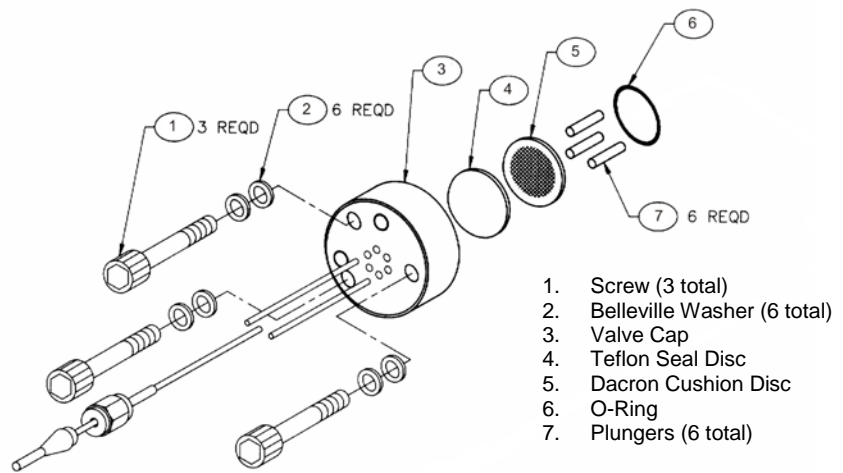
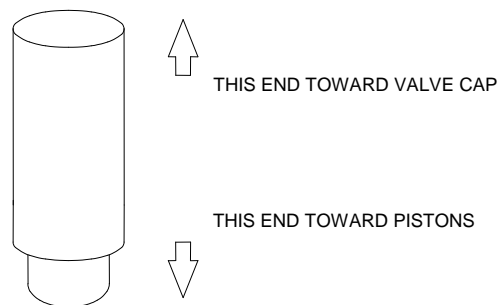

Figure 4-43: Model 11 Valve Cap Exploded View
Figure 4-45: Model 11 Plunger Orientation
2.	<p>Remove the three Allen head cap socket screws (1) and separate the cap (3) from the valve body (8). When the valve cap is removed, the following components are exposed. Refer to Figures 4-43 and 4-44.</p> <ul style="list-style-type: none"> • Teflon Sealing disc (4) [clear] • Dacron Cushion disc (5) [white] and • "O" ring (6)
3.	<p>Inspect the Teflon sealing disc (4), Dacron cushion disc (5) and silicon rubber "O" ring (6) for dirt or breaks.</p> <p>If damage is evident, discard damaged part(s) and replace with new component(s).</p>
4.	<p>If Teflon sealing disc (4), Dacron cushion disc (5) and "O" ring (6) are brittle or dirty, but not ruptured, or they are ruptured but clean, visually inspect the rest of the valve. If it is clean and in good order, install new Teflon sealing disc (4), Dacron cushion disc (5) and "O" ring (6) and reassemble the cap. Otherwise, either continue with valve disassembly or replace the valve.</p>
5.	<p>Examine each of the six plungers (7) for evidence of damage or contamination. If damage is evident, discard defective plunger(s) and replace with new ones. Refer to Figure 4-45.</p>
6.	<p>To reassemble the valve cap (3), refer to section Valve Cap Assembly. If the valve actuating piston assembly is contaminated or malfunctioning, refer to Valve Body disassembly.</p>
10.	Using a syringe with Krytox 143 AY lubricating oil, place a drop of oil on sidewall of each valve body (8) plunger hole.
11.	Reinstall the six plungers (7) into their valve body positions. Using tweezers, move each plunger up and down to thoroughly lubricate them. Plungers must not protrude above valve body (8) top surface. Refer to Figure 4-45 for plunger orientation.
12.	Using clean lint free cloths wetted with acetone, remove excess lubricating oil from top of valve body (8).
15.	<p>It is recommended that appropriate torque wrenches be used for this step (available from Siemens – PN's 1631005-002 and 1631005-003). Install valve cap (3) using the three 10-32 Allen screws (1). Screws must be tightened evenly in sequence 1, 2, 3, 1 sequence. Tightening steps are as follows. Refer to Figure 4-43.</p> <ul style="list-style-type: none"> • Run screws down until they contact valve cap. • Tighten screws with Allen driver until they are finger tight. • Tighten screws to approximately 15 inch pounds (1.69 Nm). This is a ¼ turn maximum. • Tighten screws to approximately 20 inch pounds (2.26 Nm). This is another ¼ turn maximum. • Tighten screws to approximately 35 inch pounds (3.95 Nm) • Torque bottom adjusting set screw to 6.5 inch pounds (0.73 Nm).